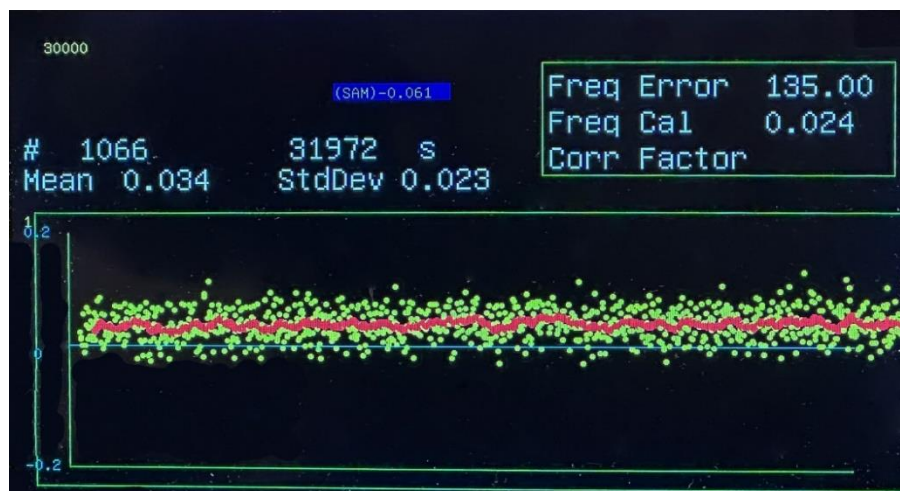

Figure 3 TXCO 8 hour Frequency Error Plot
selectable periods of time. Figure 3 shows a T41 TXCO frequency stability plot for an 8 hour period. The T41 Frequency offset is about .03Hz, with a Standard.Deviation of .023Hz. The reference source is a Rubidium 10MHz frequency standard.
- Using a TXCO makes a large difference in the frequency stability over time, as shown in Figure 4. In this case the error is plotted for a 25 MHz crystal instead of the TXCO. Compare Figure 5 to Figure 3. The TXCO average mean over 8 hours was 0.034 Hz, compared to the crystal average mean of 0.367 over just 1.3 hours.